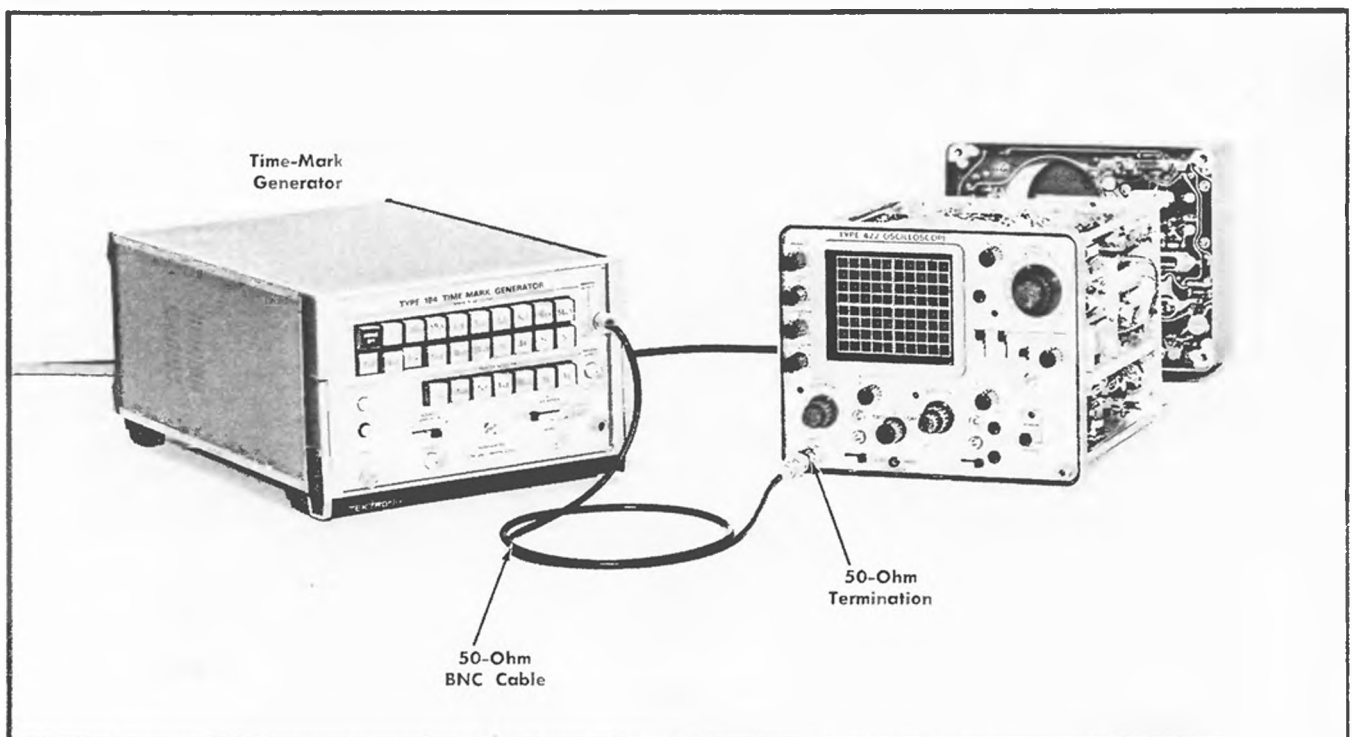

Fig. 6-41. Initial test equipment setup for steps 38–47.
- Test equipment setup is given in Fig. 6-41.